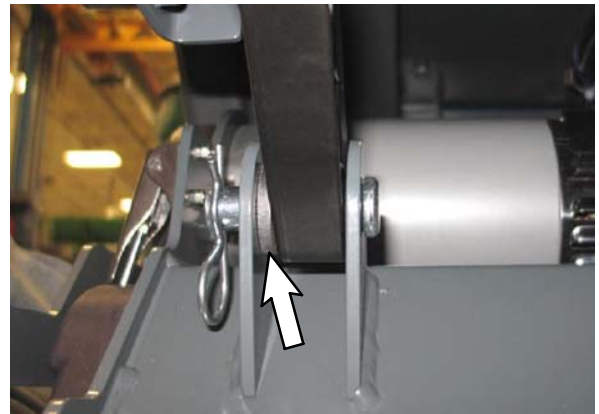

FIG. 11
12. Reconnect the scrub head lift arms to the machine. Install a spacer (1) when reconnecting each scrub head lift arm to the scrub head. Refer to Fig. 11.